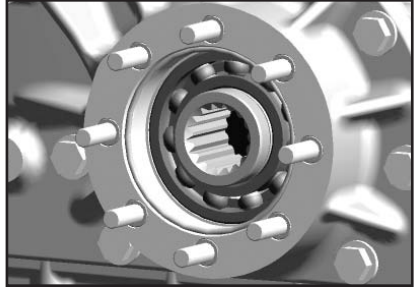

Fig. 16
5. Install Studs as shown in **Fig. 16**. DO NOT bottom studs in holes. Install until shoulder is approximately one to two threads from the transmission mounting surface. To verify correct installation measure from end of stud to transmission mounting surface. Correct length should be between 1.31 - 1.25 in. [33.2 - 31.8 mm].